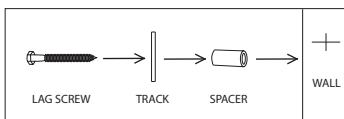

Figure 6
7. Hold up the track in position and place spacers between the track and the wall (see Figure 6). Fasten lag screws through the track and spacer to the wall. Once the track is hung, tighten the lags using a wrench.